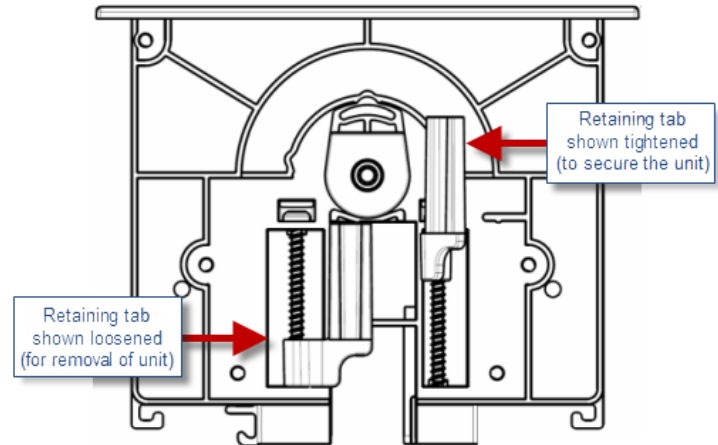

FIG. 3 HPX BASE ASSEMBLY (SHOWN MOUNTED) - MOUNTING SCREWS LOCATIONS
FIG. 3 provides a cutaway view of the End Cap, showing the retaining tabs in both the loose position and the tightened (secure) position:
2. Tighten the four mounting screws (loosened in Step 1, see FIG. 3) located inside and at each end of the HPX base assembly, to rotate the retaining tabs into locking position under the mounting surface.